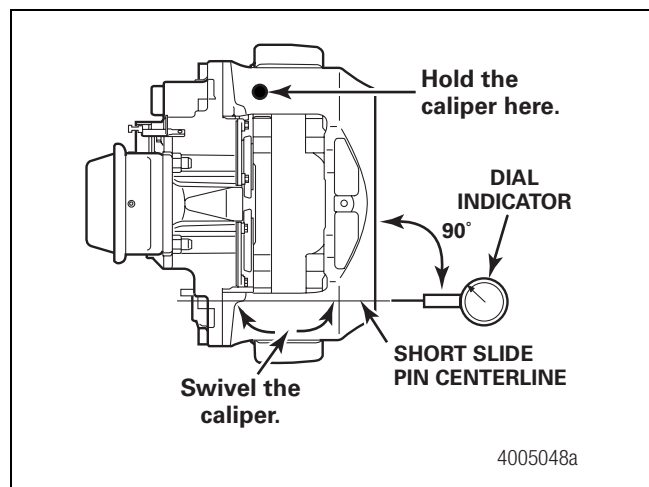
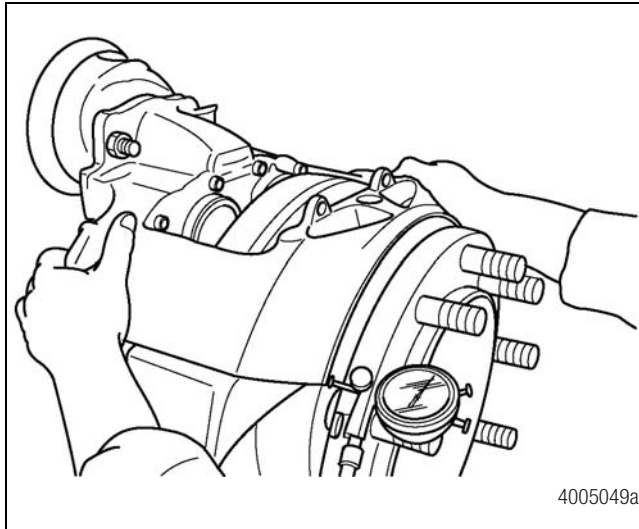

Figure 4.12
Figure 4.13
1. With the pads removed, pull the caliper housing assembly **OUTWARD** toward the wheel flange. Attach a dial indicator so that it is in line with the centerline of the short slide pin. Attach the indicator to the hub. Figure 4.12.
2. Hold the caliper so that it cannot move. Swivel the caliper until it stops in one direction. Set the gauge to **ZERO**. Figure 4.12 and Figure 4.13.
3. Move the housing in the opposite direction until it stops. Figure 4.13. The maximum acceptable reading is 0.118-inch (3 mm).